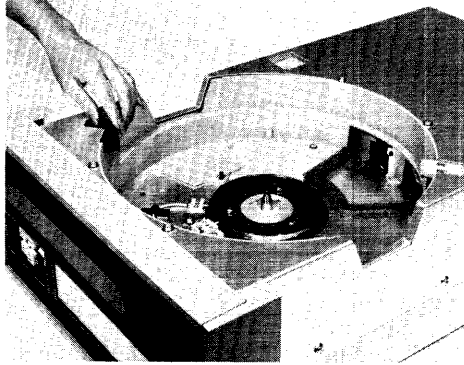

Figure 3-4. Cartridge Loading, Top Load Models
Refer to Figures 3-4 through 3-9 in conjunction with the following procedure.
- (1) Verify that the SAFE indicator is illuminated as described in Paragraph 3.3.
- (2) Grip the handle formed by the top of the front bezel and slowly pull the disk drive from the cabinet on its slides until the cartridge area is accessible.
- (3) Ensure that the cartridge lock arm is positioned away from the disk area as shown in Figure 3-4.
- (2) Grip the handle formed by the top of the front bezel and slowly pull the drive from the cabinet on its slides until the cartridge area is accessible.
- (3) Rotate the cartridge lock arm away from its position over the cartridge cover to the recess in the bowl as shown in Figure 3-4.